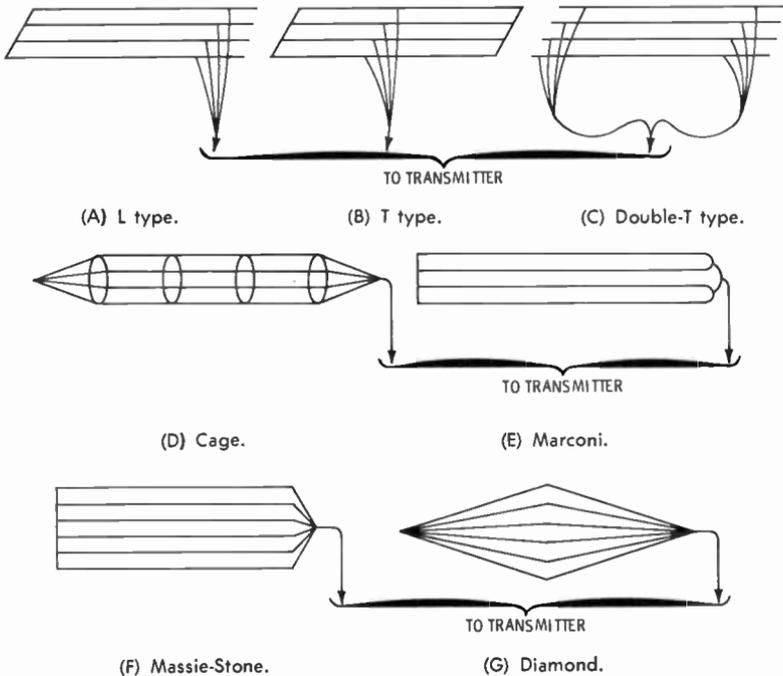

Fig. 5. Early forms of aerials or antennas.
Early forms of aerials, or antennas, are shown in Fig. 5. It was known at that time that electricity flowed in conductors such as copper wires. Edison had demonstrated that electricity also flows in a vacuum, as in the space between the filament and wing in his Edison Effect lamp. He proved that this flow of electricity in a vacuum was an ordinary direct current (DC), which was similar in all basic respects to the flow of electricity in a wire connected to a battery. Heinrich Hertz had demonstrated that high-frequency alternating current (AC) was radiated from an antenna wire into surrounding space. Hertz' discovery of electromagnetic waves was of the greatest possible significance, as can be well understood. Today, Heinrich Hertz is honored by having one cycle per second called one hertz.